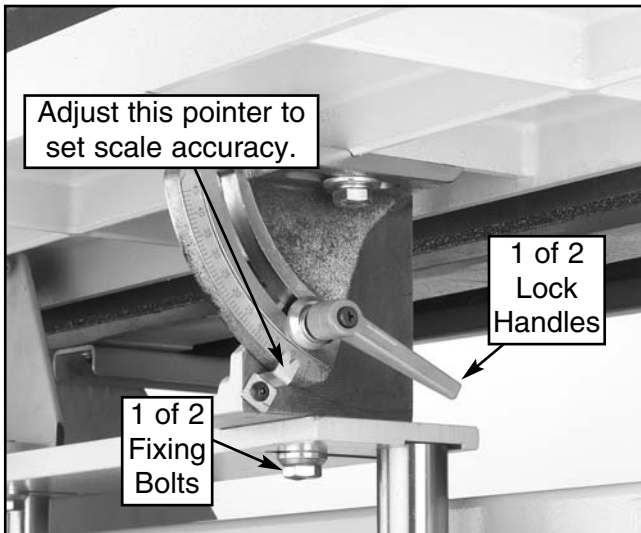

Figure 14. Main table angle adjustment lever.
1. Loosen the lock handles underneath each end of the main table as shown in **Figure 14**.
3. Changing the table angle may reduce the clearance between the inside edge of the table and the sanding belt surface. If there is less than $\frac{1}{16}$ " clearance, loosen the fixing bolts located on the underside of the table mounting bracket as shown in **Figure 14**. Pull the table and mounting bracket away from the sanding belt so there is at least $\frac{1}{16}$ " clearance between the inside edge of the table and the sanding belt surface.